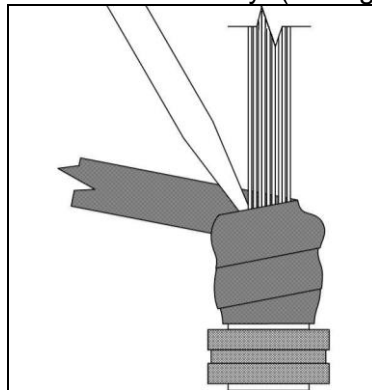

Figure 2
- 3.4.4** Stop wrapping the StretchSeal™ Tape and hold in place. Inject Self-Leveling Green® Injectable Sealant into the wire bundle immediately behind the connector rear accessory or through any openings in the rear accessory. (see figure 2)